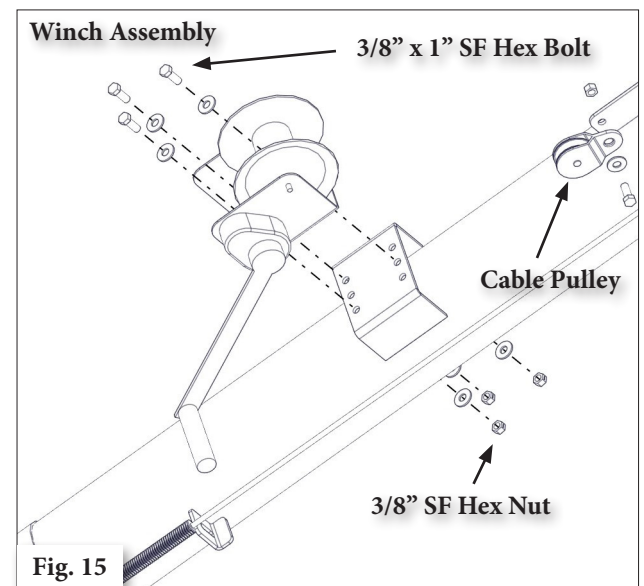

Fig. 15
- Attach the Winch Assembly using (3) 3/8" x 1" SF Hex Bolts, and (3) 3/8" SF Hex Nuts. (Fig. 15)